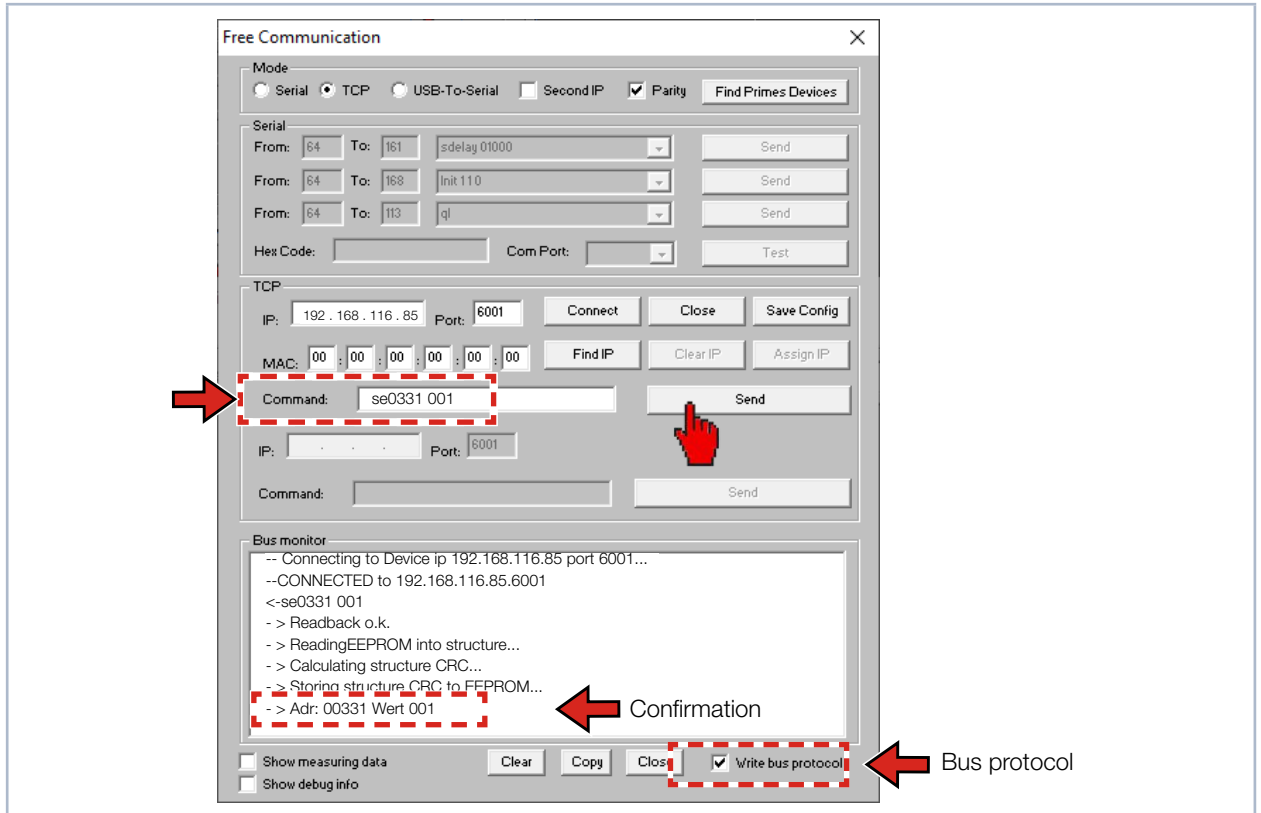

Fig. 11.5: Activating the DHCP function in the dialogue window *Free Communication*
8. Click on the **Send** button and wait for the confirmation in the bus monitor (see Fig. 11.5 on page 41 „-> Add:0331 value: 001“)